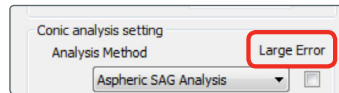

Figure 7 – Large Error
- Large error option** – If a SAG aspheric analysis is selected there is an option to select 'Large Error' (Figure 7). Large Error is for aspheric profiles that have a large form deviation error. This affects axial stability of fitting, therefore it uses the symmetrical method used in Aspheric Data Fusion to find the axis.